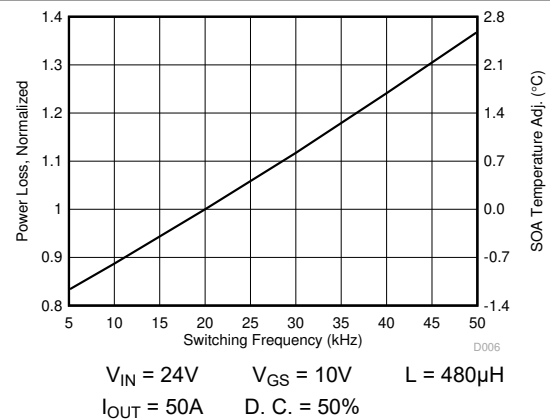

图 4-4. Normalized Power Loss vs Switching Frequency
- Normalized power loss for switching frequency  $\approx$  1.24 (图 4-4)
- SOA adjustment for switching frequency  $\approx$  1.7°C (图 4-4)